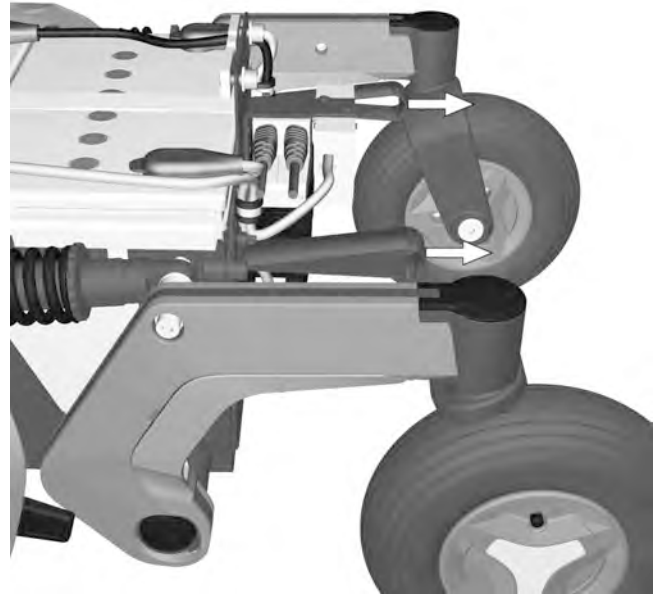

Figure 31. Use the straps to pull the batteries and the electronics out of the chassis.
8. Use the straps to pull the battery box out of the chassis. See fig. 31.